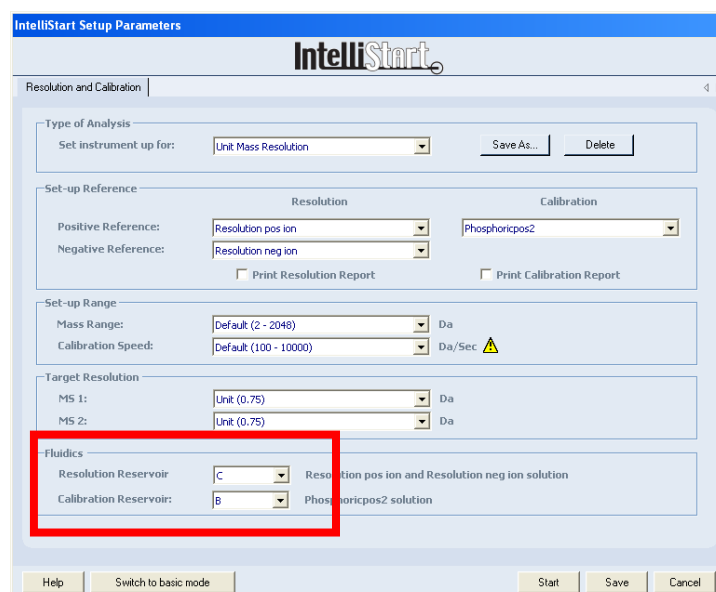

Figure 21 - Specifying the IntelliStart parameters
14. Click the **Resolution Reservoir** drop-down list and select **C** as shown in Figure 21.